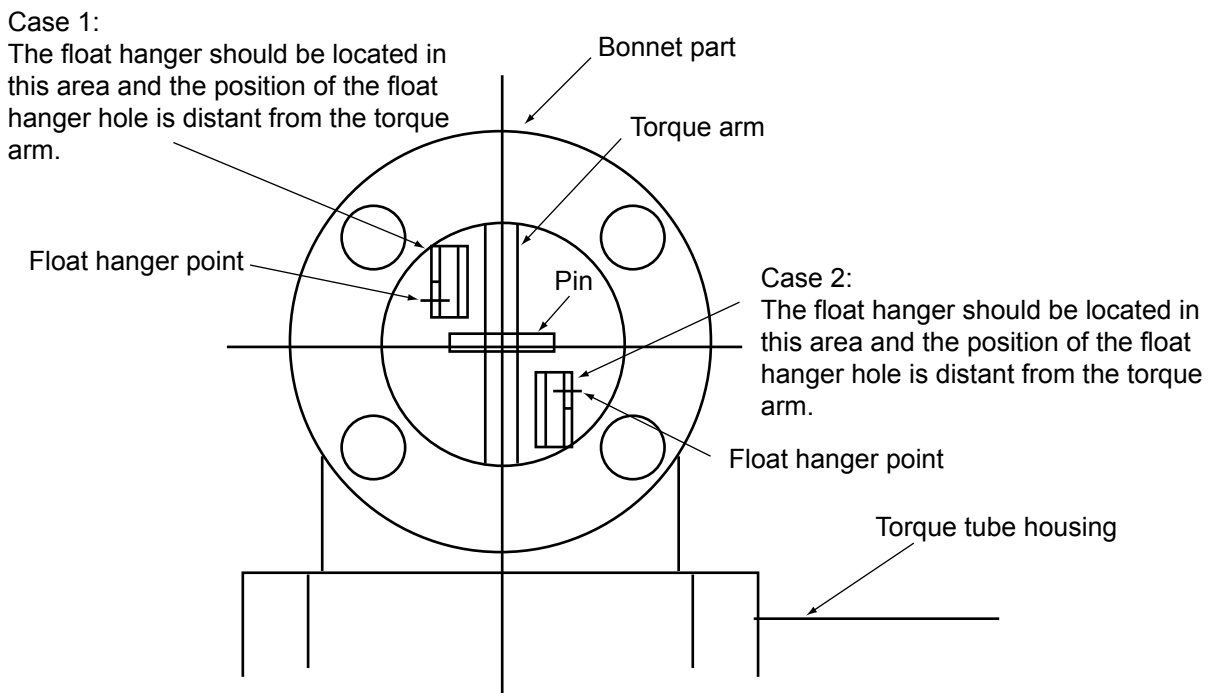

Figure 1-18 View from bonnet head
- When viewed from the bonnet head, one can see that the bonnet interior is divided into 4 areas by the torque arm and pin (see the figure below). Insert the float mounting tool from the bonnet head, and adjust the float hanger so that it sits in a position as shown in case 1 or 2 (Figure 1-18).